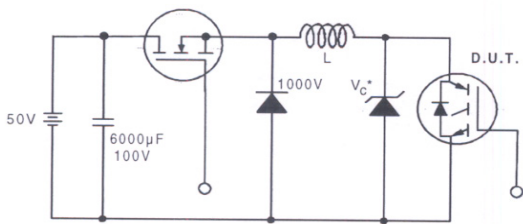

Figure 19. Clamped Inductive Load Test Circuit
② $V_{CC}=80\%(V_{CES})$, $V_{GE}=20V$, $L=10\mu H$, $R_G=10\Omega$ (figure 19)
③ Pulse width $\leq 80\mu\text{s}$; duty factor $\leq 0.1\%$.
④ Pulse width 5.0 μ s, single shot.